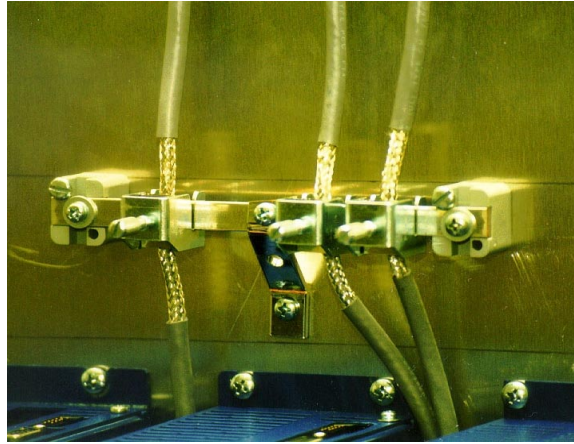
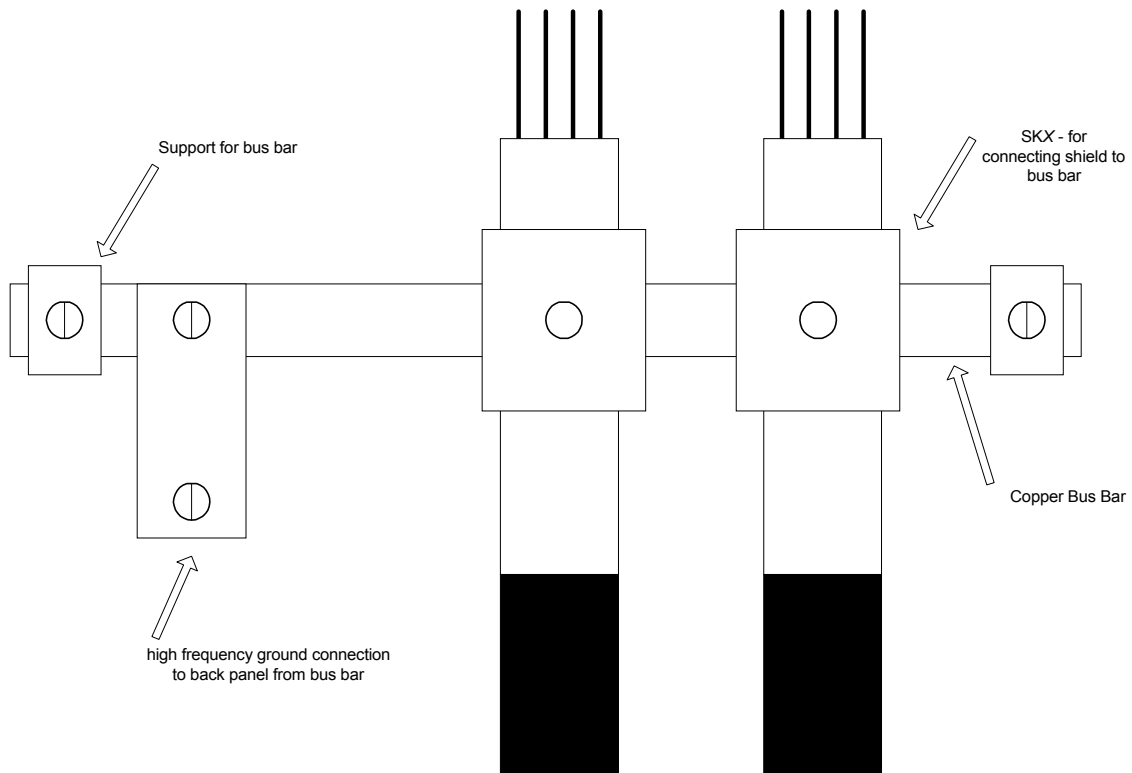

Figure 4
Figure 5
The use of the Phoenix SK device provides a low impedance path between cable shield and the back panel. Figure 4 and Figure 5 are top views of two (2) cables being clamped using the Phoenix contact devices.